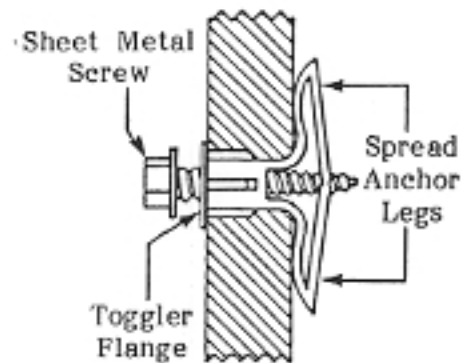

FIGURE 5
01.23 Thread the screws into the small holes in the center of the togglers. Leave approximately 3/16-inch clearance between the bottom of each screw head and the mounting surface (Figure 5).